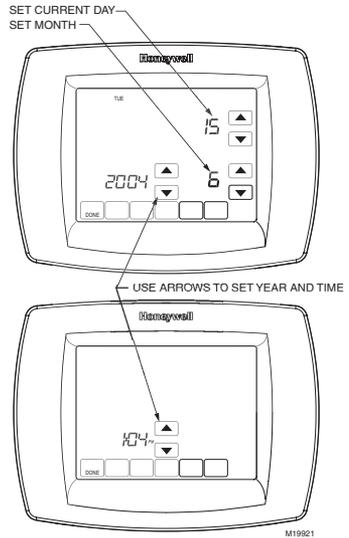

Fig. 15. Setting calendar and time after initial powerup.
This thermostat is designed to automatically keep current time and day in memory for up to ten years under normal use after calendar is set. When thermostat is first powered, display is ready to enter calendar date (Fig. 15).
1. Use arrow keys to set Year, Month and Day (see Fig. 15).
3. Use arrow keys to set current time. See Fig. 15.